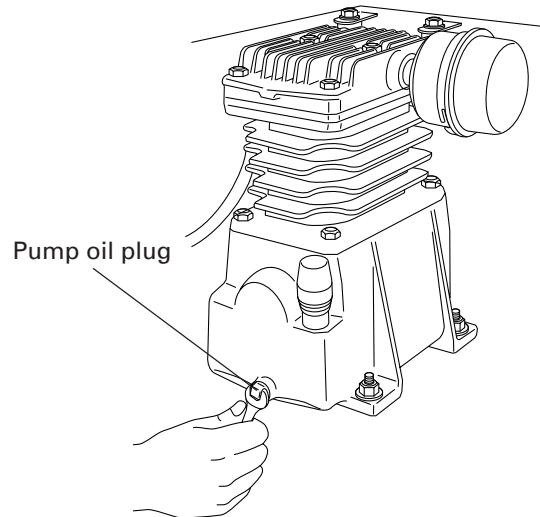

Fig. 10
- (1) Within the first 50 hours of operation, completely replace the oil of the pumping element. Unfasten the pump oil plug on the casing cover, drain all the oil, and screw the plug back on (Refer to Fig. 1 and Fig. 10).